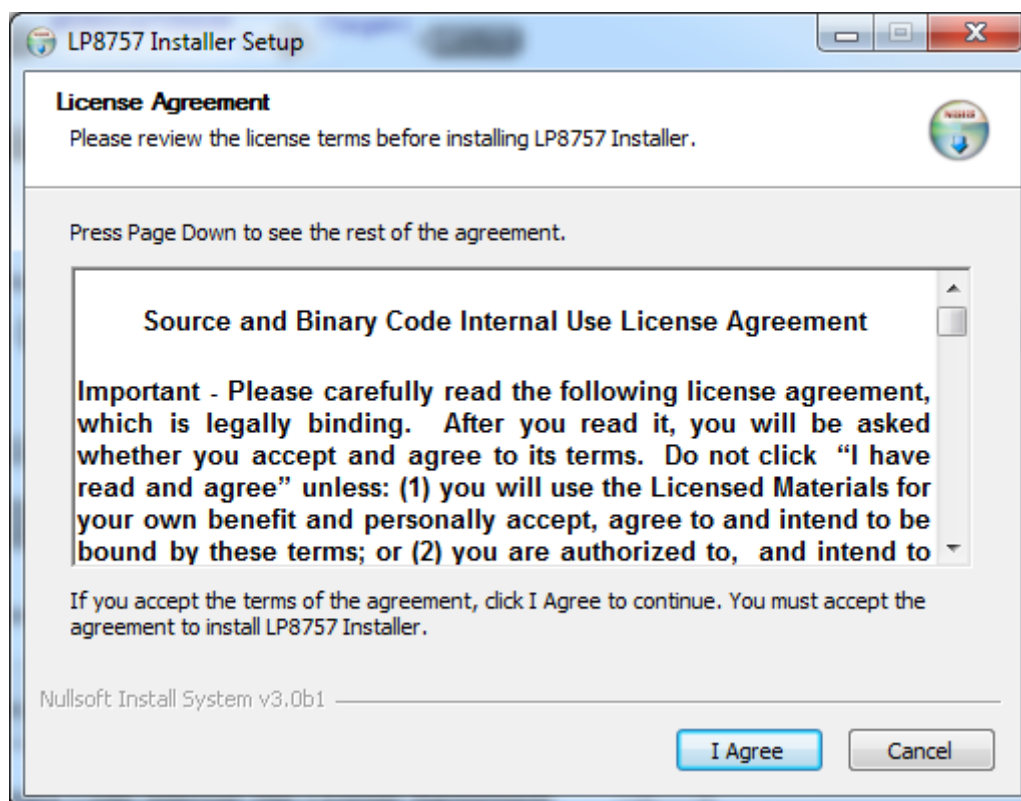

Figure 3-1. LP8757 Installer License Agreement
2. Installer prompts to accept the license agreement (see Figure 3-1).